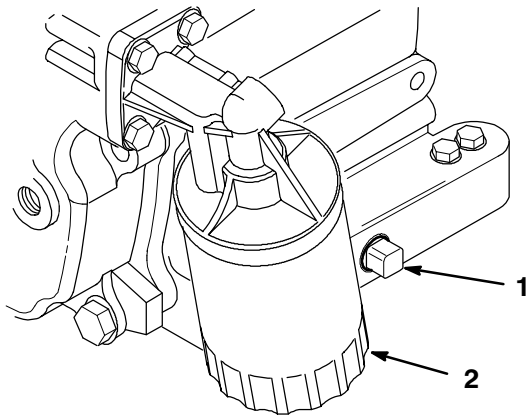

Figure 27
5. Remove the drain plug (Fig. 27) and let the oil flow into the drain pan. When the oil stops, reinstall the drain plug.
2. Remove the existing oil filter (Fig. 27). Apply a light coat of clean oil to the new filter gasket.